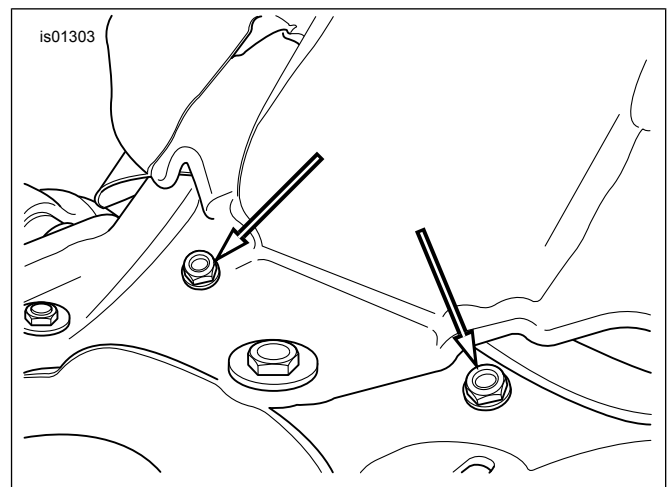

Figure 4. Remove Splash Guard Nuts (2002-2006 VRSCA/B/D)
3. See Figure 4. Remove splash guard nuts.